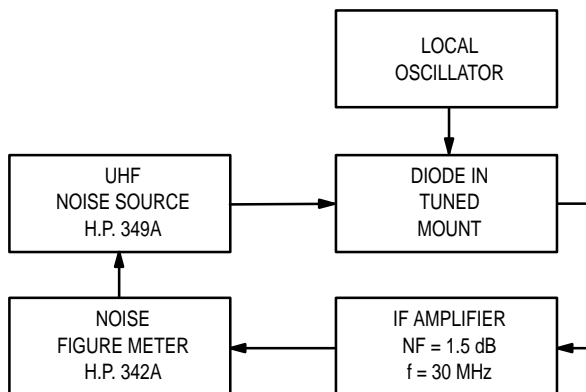

Figure 5. Noise Figure Test Circuit
Note 2 — Noise figure measured with diode under test in tuned diode mount using UHF noise source and local oscillator (LO) frequency of 1.0 GHz. The LO power is adjusted for 1.0 mW. IF amplifier NF = 1.5 dB, $f = 30$ MHz, see Figure 5.